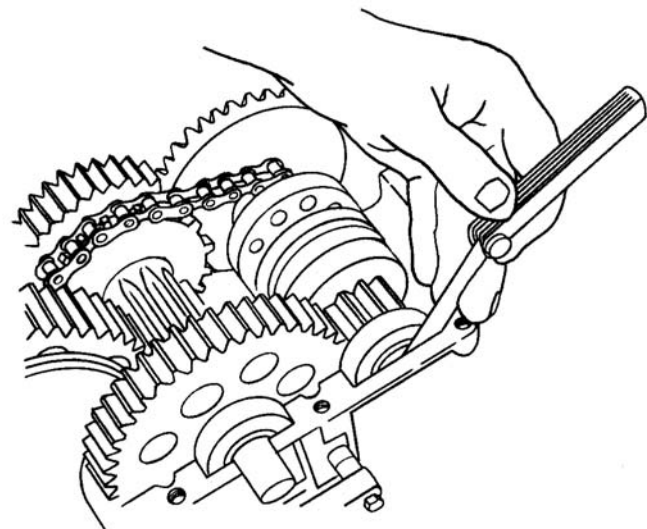

Figure 5-56. Checking Backlash Shimming
4. Shim drive shaft for .004 to .007 backlash of bevel gear. Shim opposite side for end float only. See Figure 5-56.